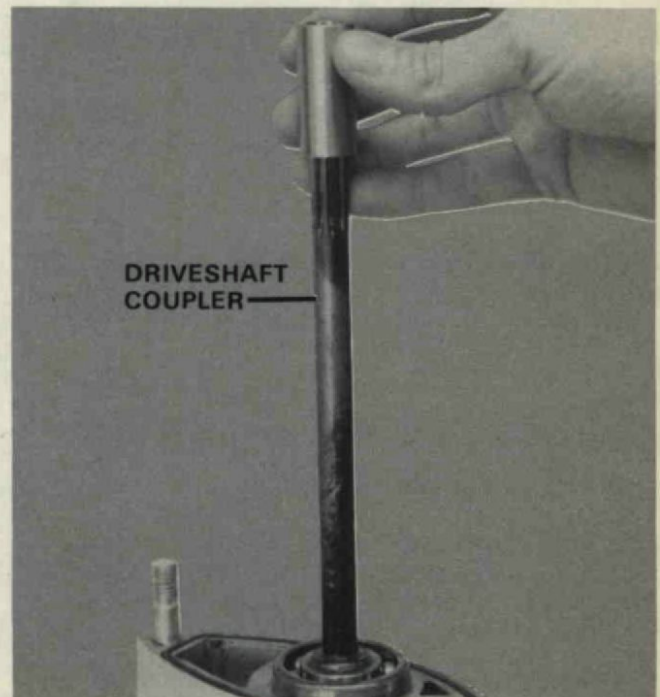

Figure 57. Removing Coupler.
- A. Remove coupler from end of pinion shaft. Figure 57.